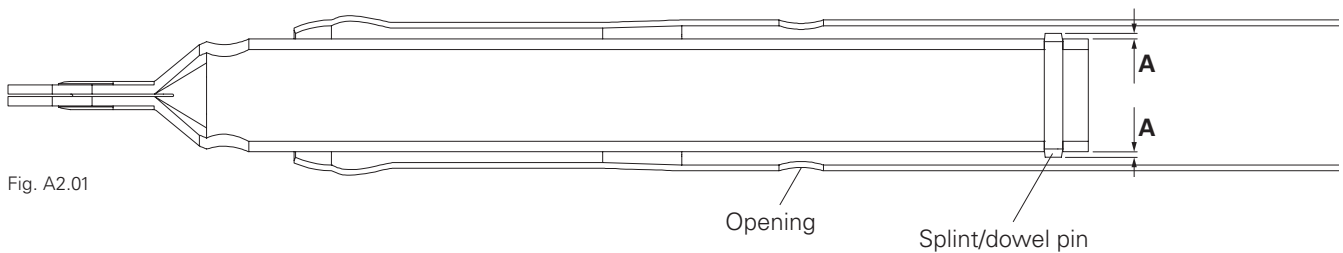
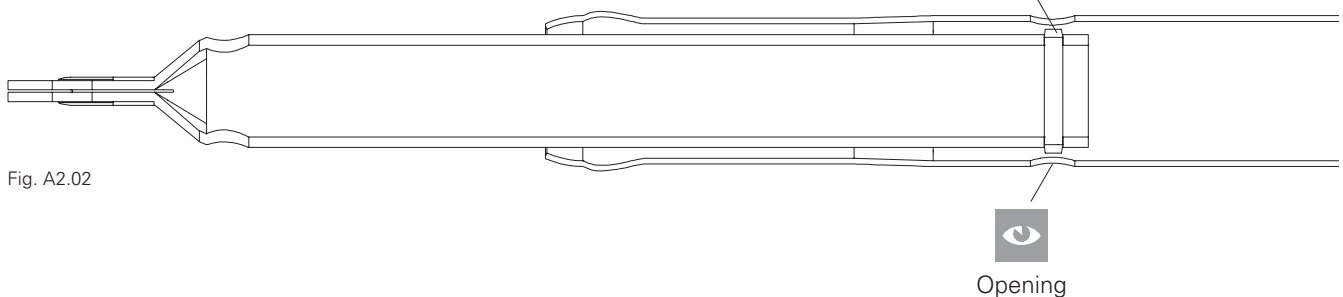

Fig. A2.01
Fig. A2.02
-  Use a suitable light source for this, e.g. torch (Fig. A2.01 + Fig. A2.02)